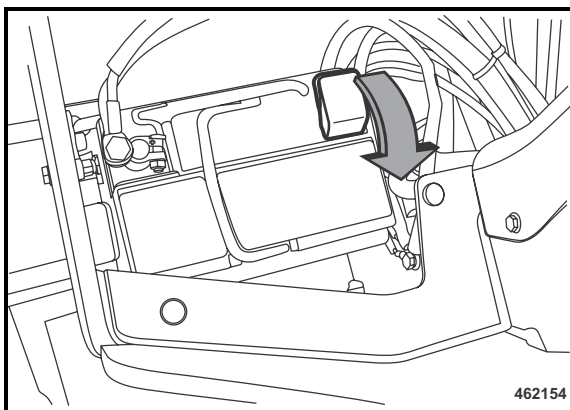

Fig. 90
- Pull up the cap from the minus pole (Fig. 90). The pole clamp on the minus pole thereby becomes loose.